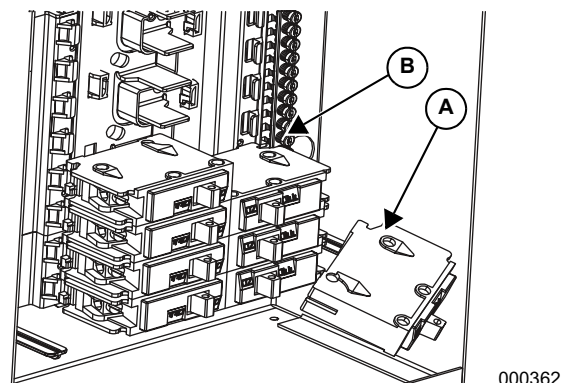

Figure 3-2. Installing Breakers
See Figure 3-2. Insert tab on the breaker (A) into hook on bus (B). Push breaker into bus until it snaps into place.